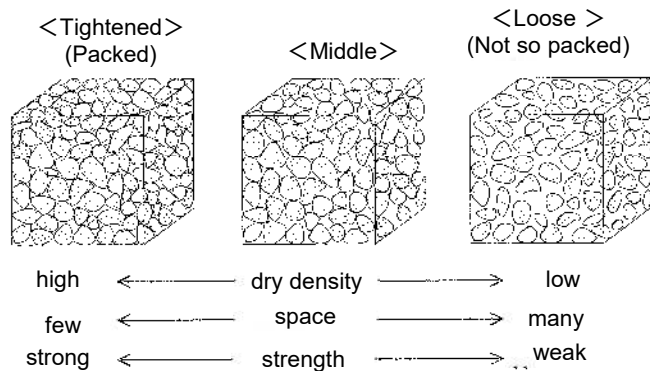

Fig. 1 Relationship between sand condition and density
- Sediment becomes stronger when the density of the sediment is packed. (See Figure 1)